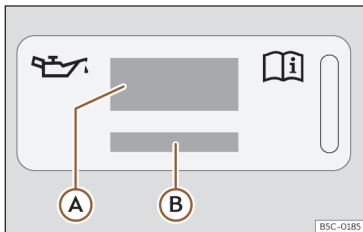
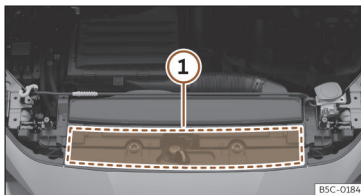

Fig. 213 In the engine compartment: engine oil label
Fig. 214 In the engine compartment: area where the engine oil label is located
Key to the >>> **Fig. 213:**
If the engine oil has to be topped up, use one of the oils shown on the label >>> **Fig. 213**. The label with the prescribed standard is located at the front of the engine compartment >>> **Fig. 214** (1). If you use the recommended engine oil, you can top up the oil as often as necessary.
- If the label showing the engine oil specifications is missing >>> Fig. 213, please contact a specialist workshop.